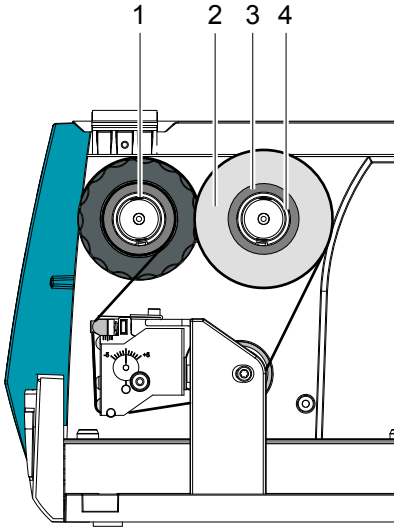

Fig. 5 Transfer Ribbon Feed Path
3. Push ribbon core on the ribbon take-up hub (1).
4. Guide transfer ribbon through the printing unit as shown in Fig. 5.
5. Secure starting end of the transfer ribbon to the ribbon core (3) using adhesive tape. Ensure counterclockwise rotation direction of the transfer ribbon take-up hub.
6. Turn transfer ribbon take-up hub (1) counterclockwise to smooth out the feed path of the transfer ribbon.